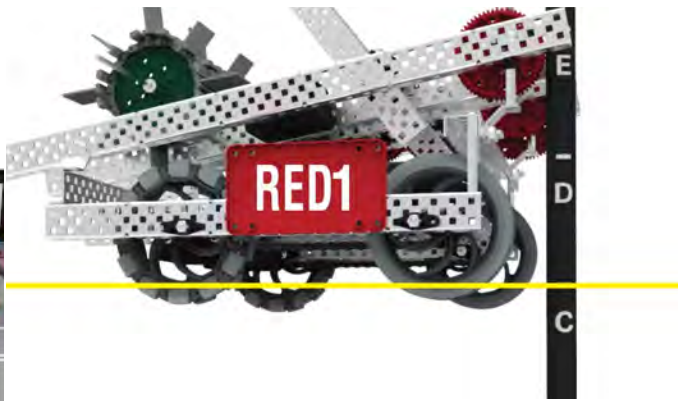

Figure 13: This Robot would be considered to be in Elevation Tier C.
**Elevation Tier** – A status that represents an Elevated Robot's height off of the field at the end of the Match. A Robot's Elevation Tier is measured by placing the Height Guide vertically next to an Elevated Robot and determining which letter-labeled segment of the Height Guide the lowest point of the Robot falls within. Each white line on the Height Guide is considered to be part of the letter-labeled segment immediately below that line. In other words, the Robot must be visibly "above the line" in order to move into the next Elevation Tier. See Figure 13.